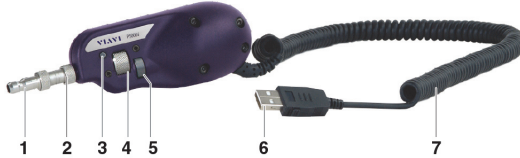

Fig. 24 P5000i Digital Probe components
1. With the P5000i Digital Probe, use the Focus Control key (see Fig. 24) to adjust the image quality and sharpness.